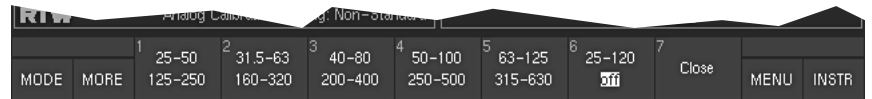

Fig. 5-31: Second Toolbar function layer of the LF test signal (displayed after selecting MORE)
When you perform the test by selecting the corresponding function (see below) a low-frequency signal (second layer, see Fig. 5-31) is output to the LF channel and all other speakers are muted. When you select the same function again the noise signal with the bandwidth shown in the bottom row is output to the speakers set with the **Output** function (see below). Switching back and forth between the two allows you to check the balance of the crossover frequencies and the best position for the subwoofer.
(Second layer, buttons/keys 1 to 5, see Fig. 5-31)
(Second layer, button/key 7, see Fig. 5-31)